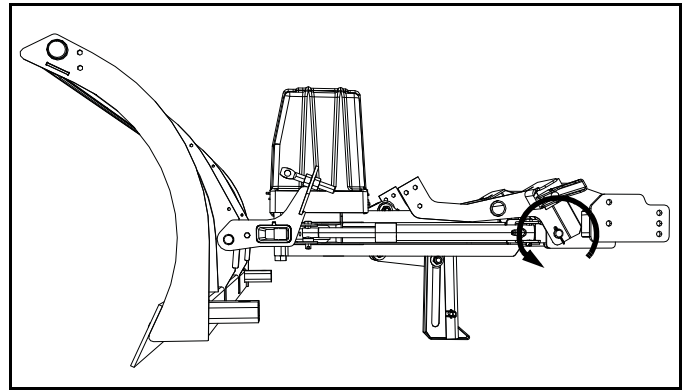

Figure 1-16
5. Rotate jack stand down and raise A-frame by pressing the up button. (See Figure 1-16)